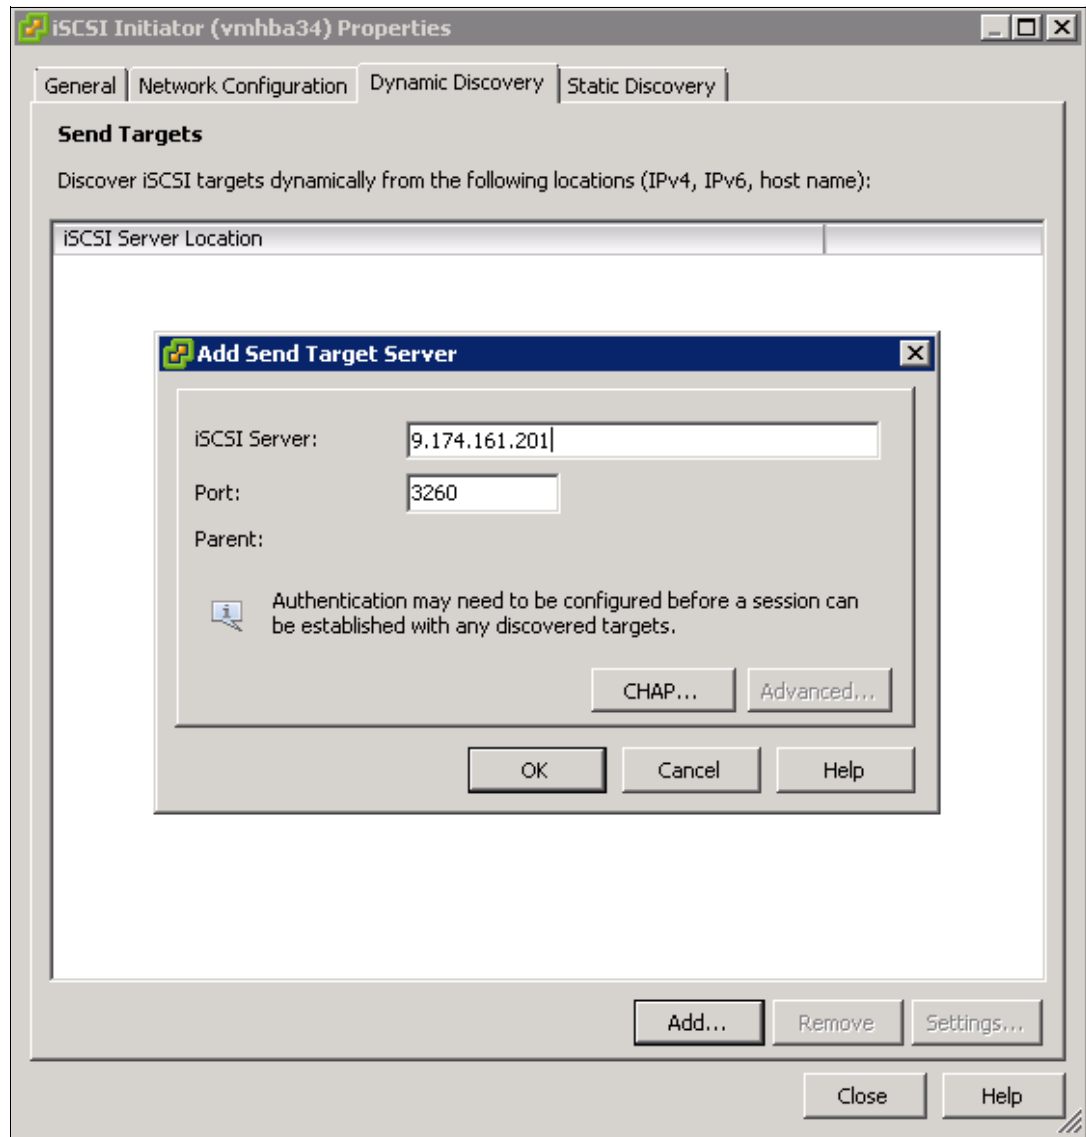

Figure 5-83 Enter a target IP address
5. To add a target, enter the target IP address, as shown in Figure 5-83 on page 218. The target IP address is the iSCSI IP address of a node in the I/O Group from which you are mapping the iSCSI volume. Leave the IP port number at the default value of 3260 and click **OK**. The connection between the initiator and target is established.